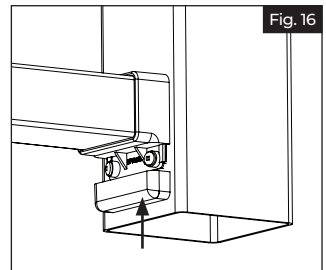

Fig. 16
- d. Slide bottom bracket covers snugly onto bottom brackets (Fig 16).